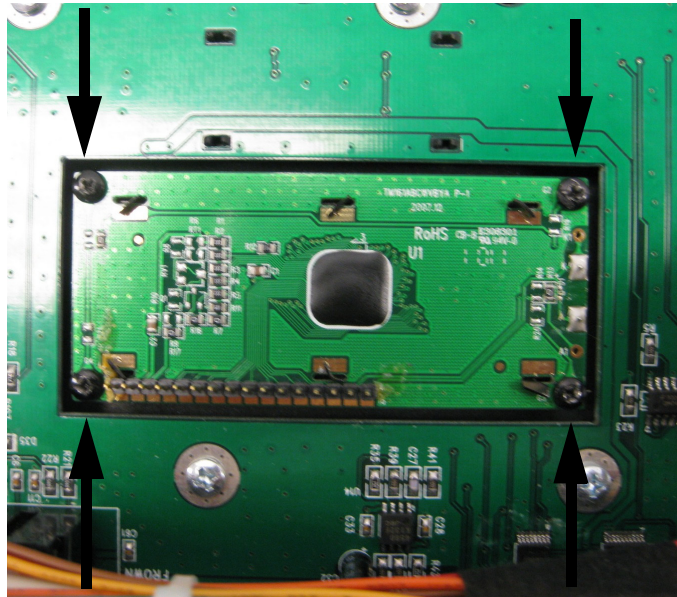

Figure 3-6 LCD Board Screw Locations
2. The LCD is mounted onto a bezel that is secured to the Front Panel Board. Remove the four screws that secure the LCD to the front panel bezel (see Figure 3-6 below for the LCD Board screw locations.)
2. Install the four screws that secure it to the front panel bezel (see Figure 3-6 for the LCD Board screw locations.)